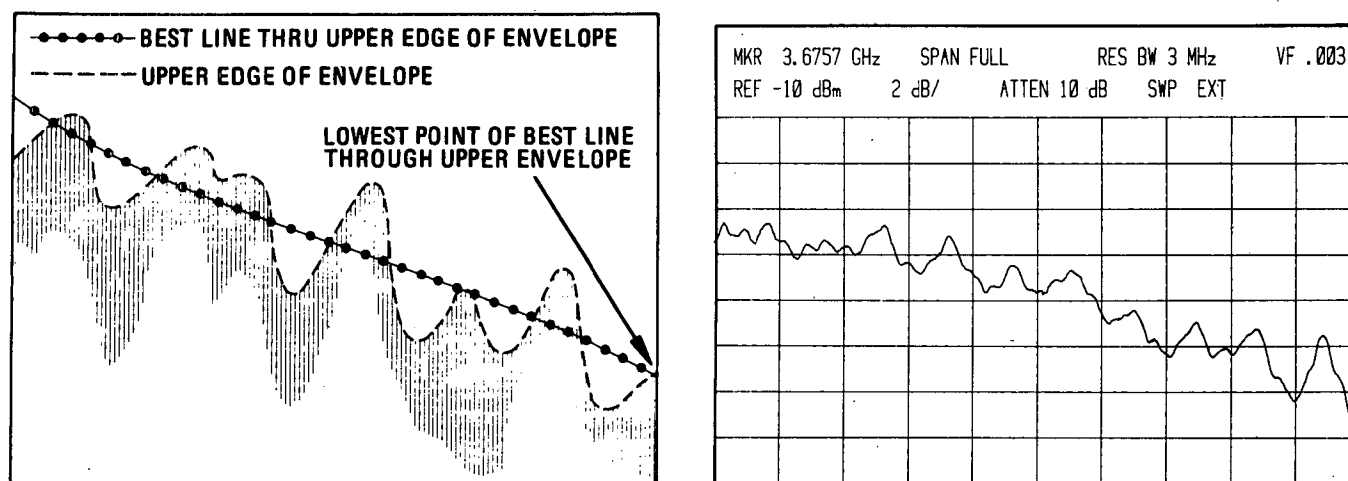

Figure 5-54. Best Line Relative to 1 kHz Modulation Envelope
The 'best line,' as used in the following procedures, approximates the median line between the peaks and troughs of the upper edge of the 1 kHz modulation envelope. The best line is illustrated in Figure 5-54.
8. Note best line as illustrated in Figure 5-54. Adjust REFERENCE LEVEL controls to set lowest point of that line on center horizontal graticule line. This point is used as a reference in checking for approximately same power level in frequency bands 5.8–12.9 GHz, 8.5–18 GHz, and 10.5–22 GHz (steps 9 through 14).
15. With equipment connected as shown in Figure 5-54, set A28S1 NORM-OFF-TEST switch to NORM. Set spectrum analyzer FREQUENCY BAND GHz to 3.8–8.5, INPUT ATTN to 10 dB, REF LEVEL dBm to –10, and REFERENCE LEVEL FINE to 0. Set synchronizer ERROR SIGNAL switch to –. Set sweep oscillator to sweep from 3.8 GHz to 8.5 GHz. Set TRACE A and TRACE B to STORE BLANK.
28. With equipment connected as shown in Figure 5-54, set spectrum analyzer FREQUENCY BAND GHz to 1.7–4.1 GHz and set SWEEP SOURCE to EXT. Set synchronizer ERROR SIGNAL switch to -. Set sweep oscillator to CW and adjust CW control to approximately 2.9 GHz. Set ΔF X10 to 2.4 GHz. Phase lock sweep oscillator and set output power level as follows: